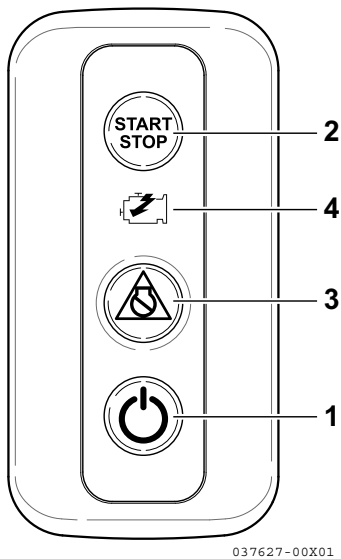

Figure 8
4. Press the Power switch on the switch panel of the selected station (1, **Figure 8**).
9. Press the Engine START/STOP switch (2, **Figure 8**) and power on the starter.